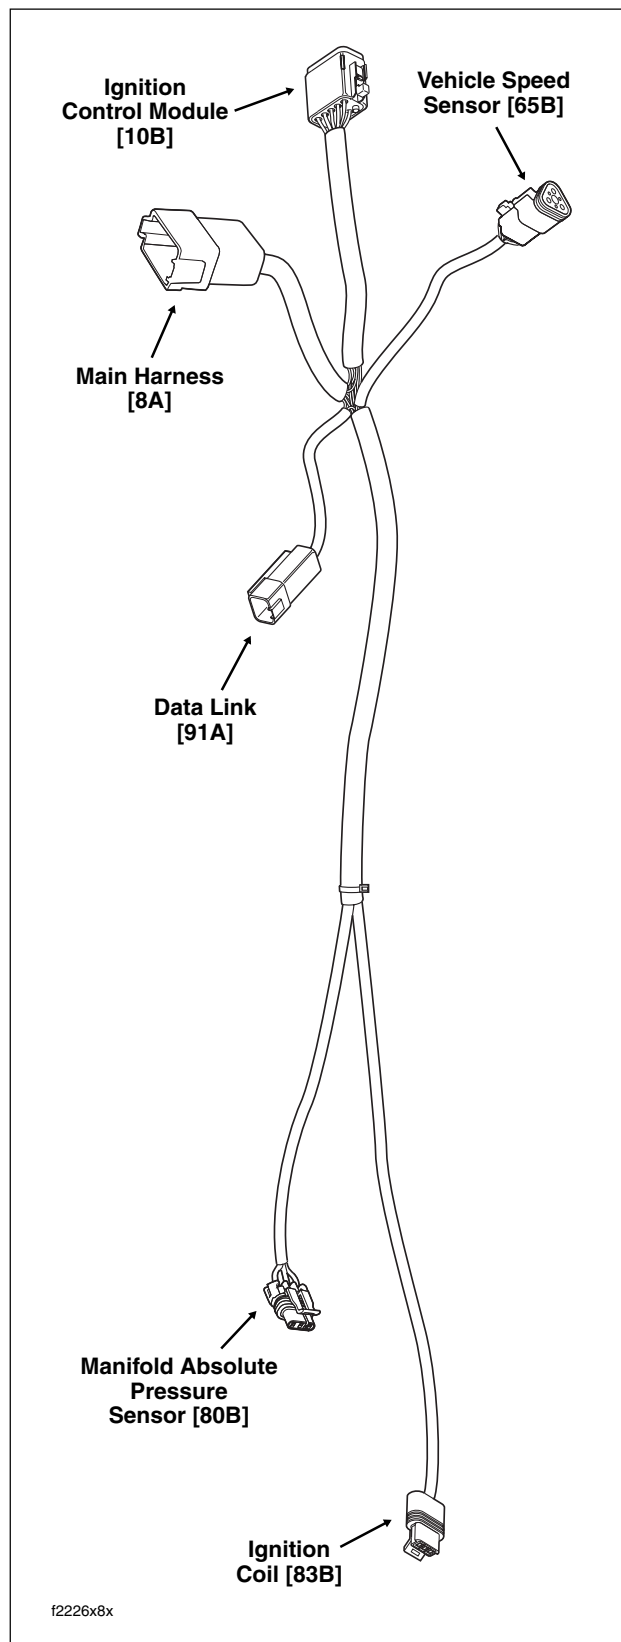

Figure 8-184. Ignition Wire Harness Connectors
1. Locate end of ignition harness terminating in two connectors. See Figure 8-184.